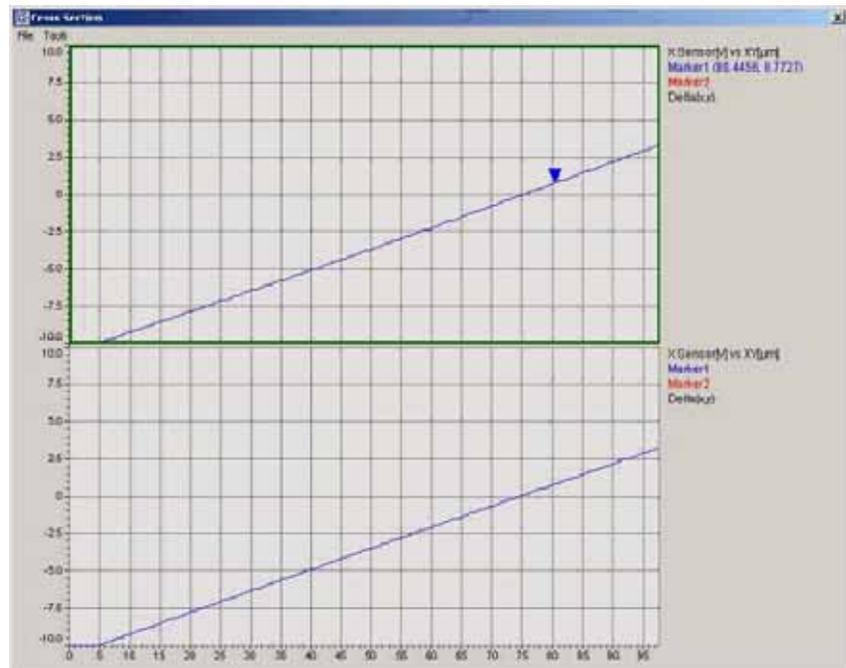

Figure 105 Initial plot before closed-loop scanner calibration
- 10 Click the **Up** or **Down** blue arrows in the **Scan and Motor** window to initiate a scan. When the scan is first started, the graph will probably look similar to that in Figure 105.